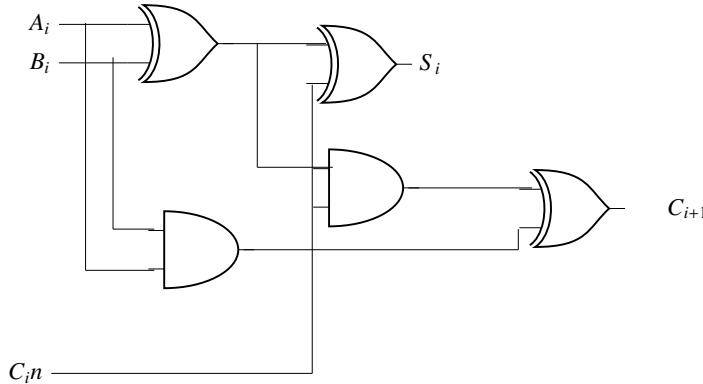

Fig. 4.20
32. Fig. 4.20 below shows the i^{th} full-adder block of a binary adder circuit. C_i is the input carry and C_{i+1} is the output carry of the circuit. Assume that each logic gate has a delay of 2 nanosecond, with no additional time delay due to the interconnecting wires. Of the inputs A_i , B_i are available and stable throughout the carry propagation, the maximum time taken for an input C_i to produce a steady-state output C_{i+1} is _____ nanosecond.